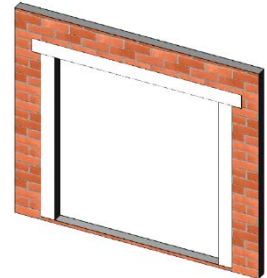

Figure 37:
2. At each jamb, embed the flashing paper into the sealant onto mounting flange and fasten into place. The flashing paper should be cut sufficiently long enough to extend at least 3 in. past the weep-screed or diado flashing and at least 6 inches above the head of the window (Figure 37).